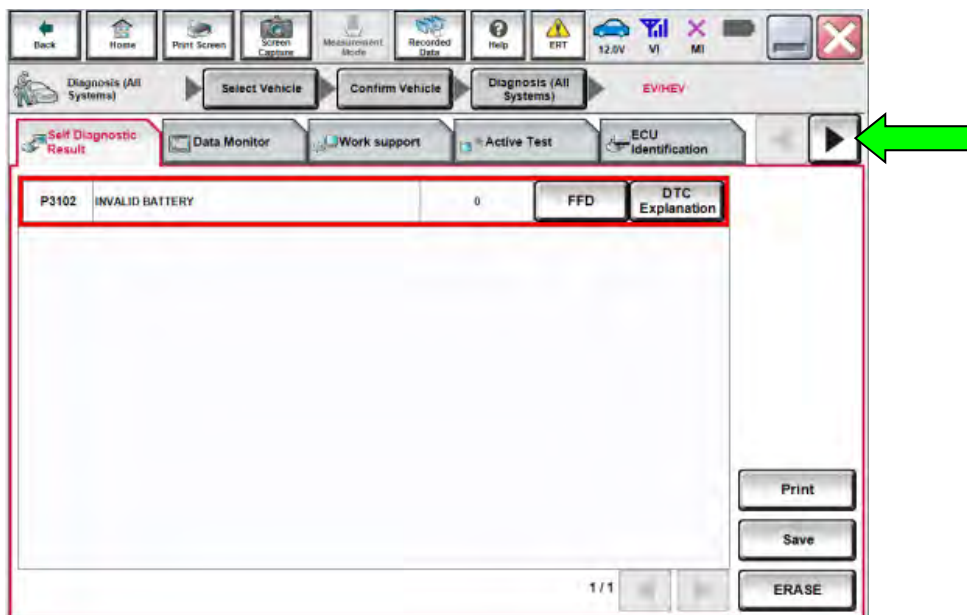

Figure 6
11. Select the “right arrow” (Figure 6).
- If the card is installed, but the arrow in Figure 6 is not available, reboot the CONSULT PC and restart the procedure from step 3.